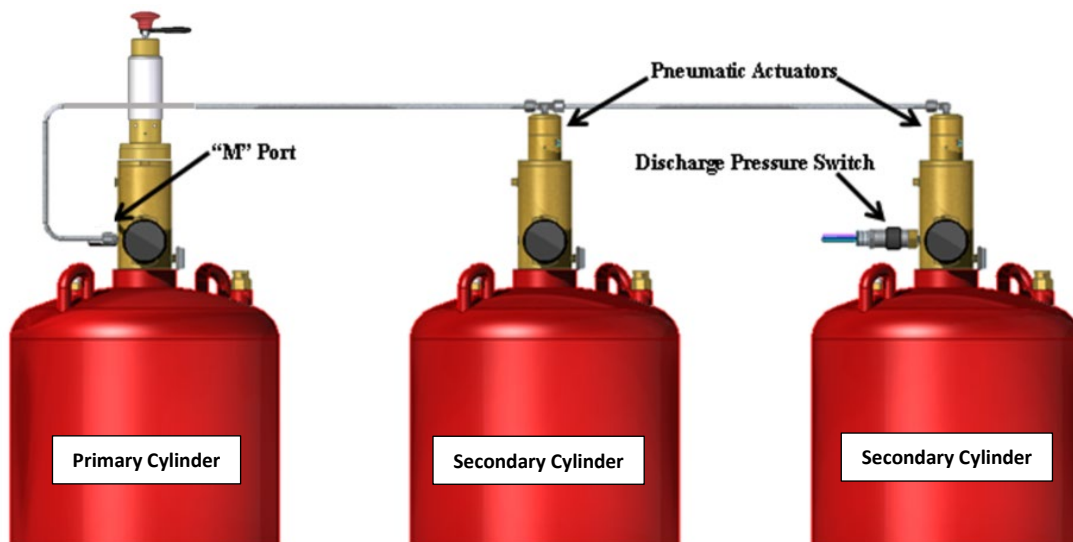

Figure 16 – Secondary Control Arrangement Example
- Primary/Secondary Cylinder Banks (Figure 16)
The pressure required to operate the Pneumatic Actuator is obtained from the “M” port of the primary cylinder. Multiple cylinders equipped with a Pneumatic Actuator can be activated from one master cylinder using ¼ inch metal flex hose, see Figure 16 – Secondary Control Arrangement Example and Table 18 – Pneumatic Actuator Quantities for additional information.